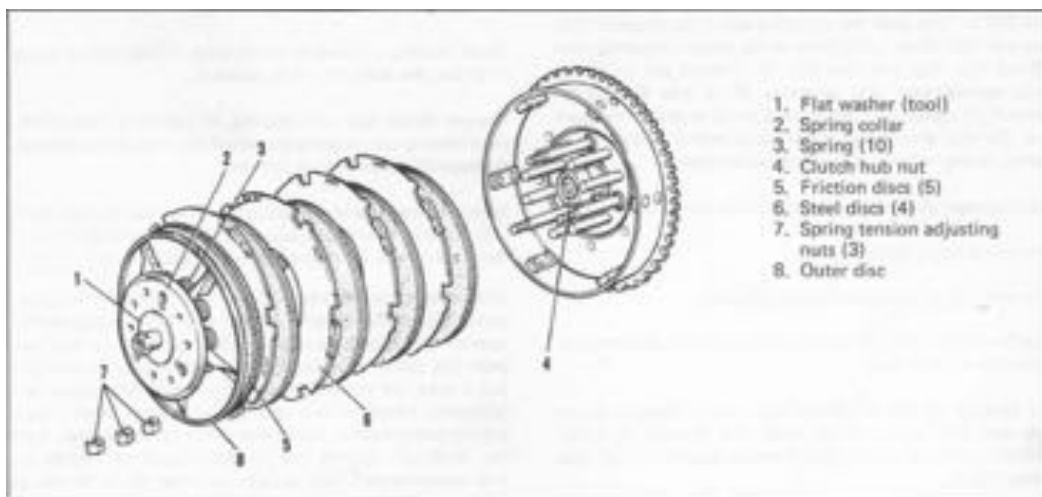

Figure 4-3. Removing Clutch
A new clutch is assembled to the distance from inner edge of spring collar (2, Figure 4-3) to the surface of the outer disc (8) is exactly 1-1/32 in. If springs are compressed to this distance is 7/8 in. or less, the clutch probably cannot be fully disengaged. Check this dimension at several points to make sure that releasing disc is parallel with plates.
Remove push rod adjusting screw lock nut (1). Place a flat washer about 1/8 in. thick with 1-3/4 in. outside diameter and 3/8 in. hole over the adjusting screw (2). Replace lock nut and turn down until three spring tension adjusting nuts (3) are free. The nuts may then be removed and the spring collar-springs-outer disc assembly (4, 5 and 6) may be slipped off clutch hub dowels and studs as shown in figure 4-3. Do not disassemble these parts unless necessary for spring, spring collar or outer disc replacement.